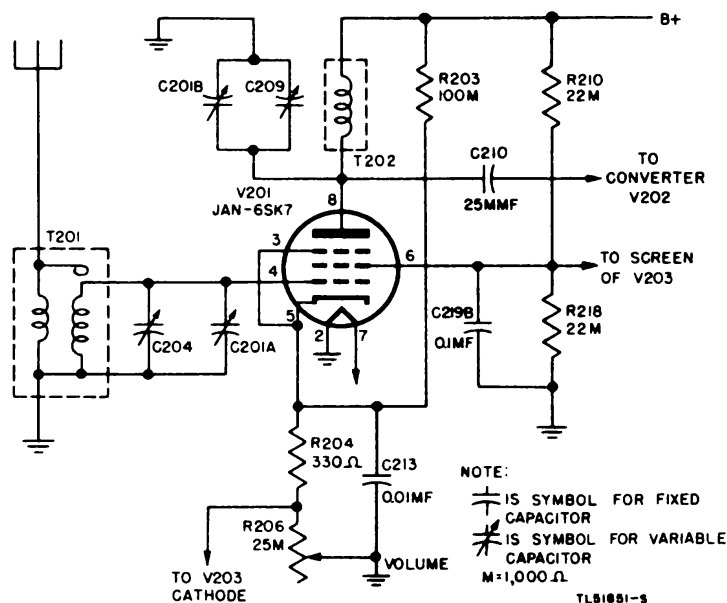

Figure 24. R-f amplifier V201, simplified diagram.
59. RADIO-FREQUENCY AMPLIFIER (fig. 24).
a. The first stage of the receiver section is an r-f amplifier and uses a Tube JAN-6SK7 (V201). The signal picked up by the antenna is fed through the antenna switch (not shown on simplified diagram) to the primary winding of antenna transformer T201. Figure 24 is a simplified diagram of the r-f stage showing a single secondary coil for clarity. The frequency range of the receiver is covered in two bands and a second tuned secondary coil is included which may be switched into the circuit by operation of the RECEIVE BAND SWITCH on the front panel of the receiver-transmitter. For operation on the h-f band, the l-f secondary coil is short circuited to prevent it from affecting the operation of the stage. The h-f secondary winding of T201 is tuned to resonance by main tuning capacitor C201A and by parallel trimmer capacitor C204. Additional capacitive coupling is provided between the primary and the h-f secondary by a single open turn wrapped around the secondary winding and connected to the antenna side of the primary winding. The selected r-f signal in the resonant secondary circuit is applied to the grid (pin 4) of r-f amplifier tube V201.
c. The plate load of tube V201 consists of coil T202 tuned to resonance at the received signal frequency by tuning capacitor C201B and trimmer C209. Only one winding of T202 is shown in figure 24, the other winding is used when tuning the l-f band. Tuning capacitor C201B is a part of a three-section variable capacitor which includes capacitor C201A in the grid circuit of the r-f amplifier and capacitor C201C in the h-f oscillator circuit.